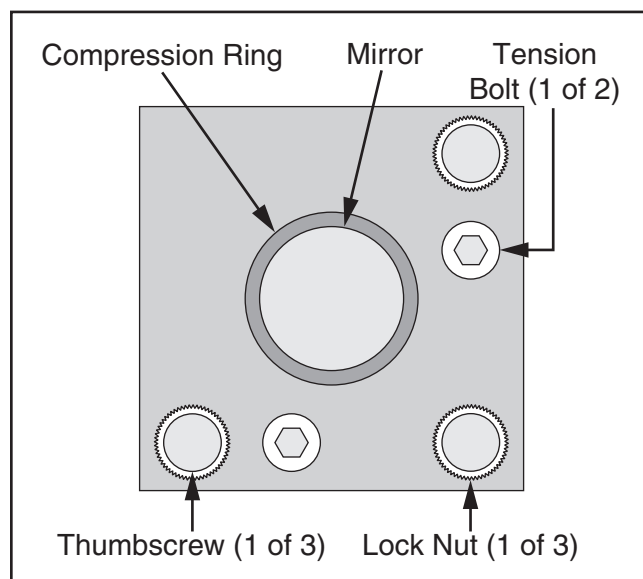

Figure 109. Typical mirror assembly.
14. Loosen lock nuts on (3) thumbscrews located behind Mirror #1 (see **Figure 109**).
21. If no adjustments were made in **Step 14**, loosen lock nuts on (3) brass thumbscrews located behind Mirror #1 assembly (see **Figure 109** on **Page 72**).